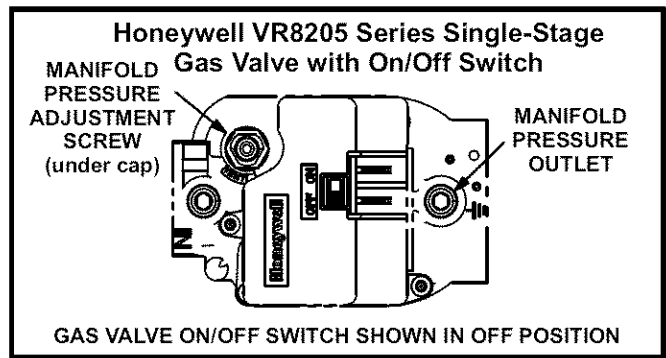

FIGURE 3
- 2 - Remove the heating compartment access panel. Remove burner box cover, if necessary. Turn the automatic gas valve knob, or switch the gas valve lever, to the **OFF** position (figures 3, 4, 5 and 6).
- 6 - Turn the knob on the gas valve clockwise  (or move the lever) to the **OFF** position. Do not force. See figures 3, 4, 5 and 6.
- 7 - Wait five (5) minutes for any gas to clear out. If you then smell gas, **STOP!** Immediately call your gas supplier from a neighbor's phone. Follow the gas supplier's instructions. If you do not smell gas, go to the next step.
Check the gas line pressure while the unit is operating. Maintain a minimum of 4.5" w.c. (1.12 kPa) and a maximum of 10.5" w.c. (2.61 kPa). See figures 3, 4, 5 and 6 for the location of the inlet pressure tap on the gas valve.